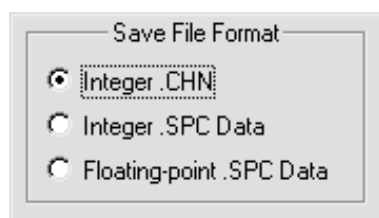

Figure 9. Radio Buttons.
- **Radio buttons** (Fig. 9) appear on many ISOTOPIC dialogs, and allow only one of the choices to be selected.